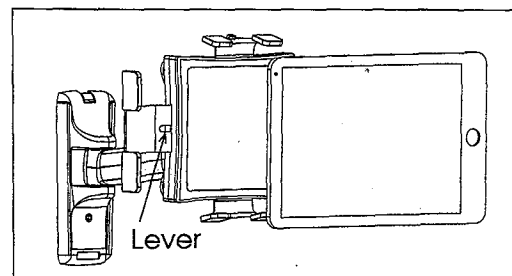

Fig. 2
- 1 Open the tablet mount adaptor, make sure you can load your tablet in the adaptor easily. (see Fig. 2).